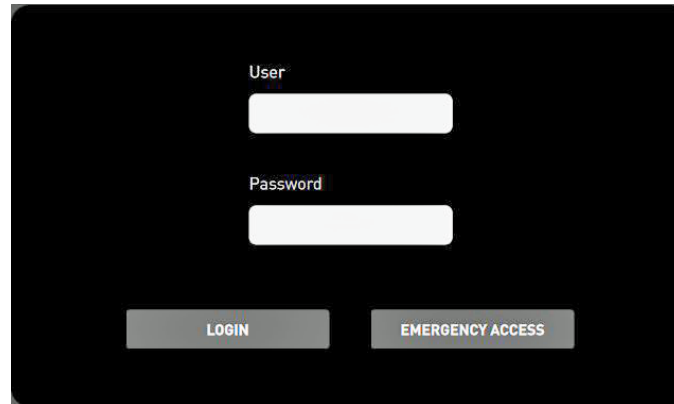

FIGURE 5.1 Login Screen
- The Login screen displays (FIGURE 5.1). Enter your User name and Password and select LOGIN.